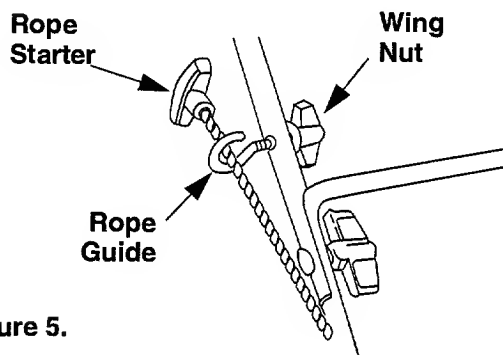

Figure 5.
6. The rope guide is attached to the right side of upper handle. Loosen the wing nut which secures the rope guide. See figure 5.
**grounded**, hold the blade control handle against the upper handle, and pull the starter rope out of the engine. Release the blade control handle. Slip the starter rope into the rope guide. Tighten the wing nut. See figure 5.